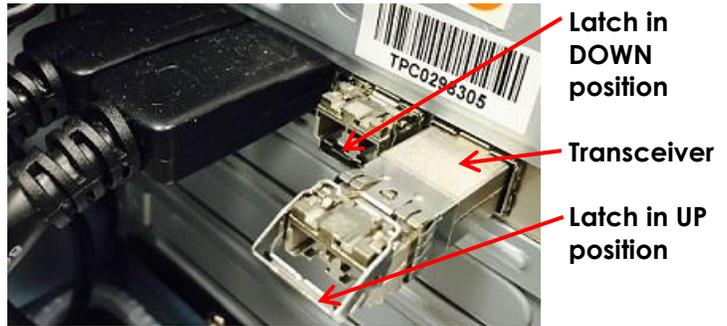

Figure 84: Fiber Optic Transceiver
7. Flip the latch on each fiber optic transceiver to its *UP* position and pull out the transceiver (refer to Figure 84).